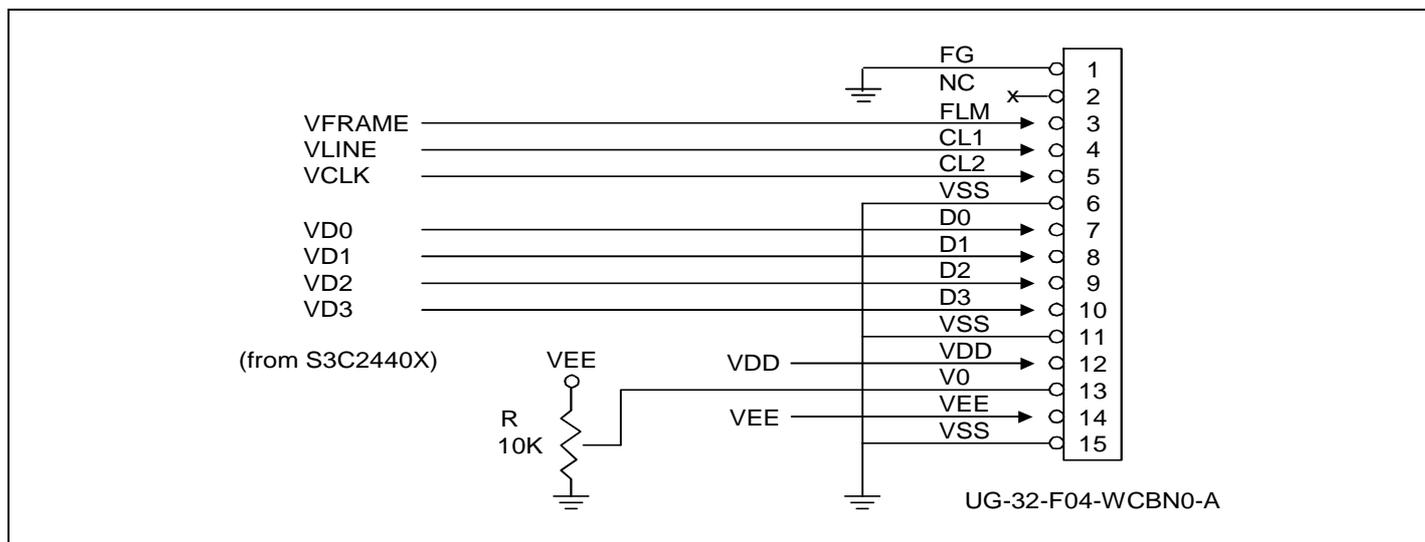

Figure 4-14. UG-32F04 Connection with S3C2440X (320x240 Mono STN LCD)
- UG-32F04 (320x240 mono STN LCD) from SAMSUNG DISPLAY DEVICES CO., LTD. (refer to Figure 4-14)